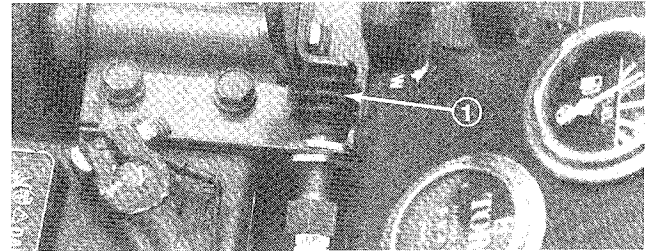

Figure 39
3. Remove boot from button end of PTO switch (Fig. 39). Retain boot for reinstallation. Separate switch wire connectors.